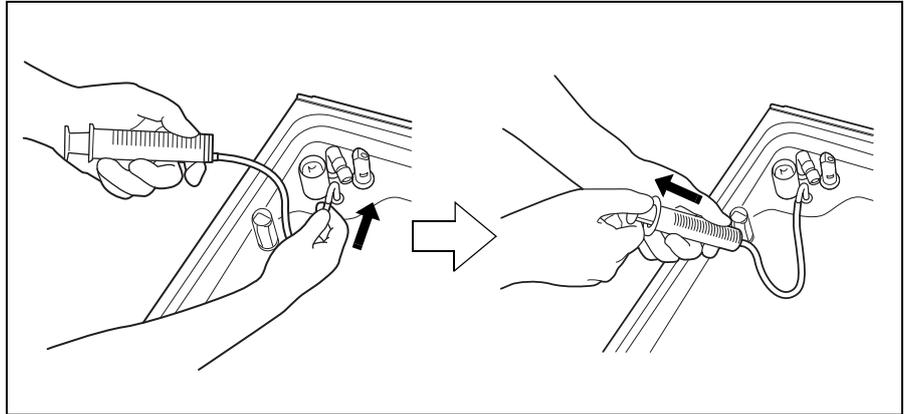

Figure 7.89
6. To remove detergent from inside the line, connect the tube attached to the syringe to the detergent nozzle inside the reprocessing basin. Suction the detergent with the syringe until no more detergent comes out of the line (see Figure 7.89).
9. To rinse the line, connect the tube attached to the syringe to the detergent nozzle and suction more than 50 ml of sterile water with the syringe (see Figure 7.89).
10. To remove rinse water from inside the line, connect the tube attached to the syringe to the detergent nozzle inside the reprocessing basin. Suction the water with the syringe until no more water comes out of the line (see Figure 7.89).
13. To fill the detergent supply pipe with the disinfectant solution, connect the tube attached to the syringe to the detergent nozzle and repeat the suction operation with the syringe until the disinfectant solution comes out of the tube. During this process, do not let the air come into the detergent supply pipe (see Figure 7.89).
16. To remove disinfectant solution from inside the line, connect the tube attached to the syringe to the detergent nozzle and suction the disinfectant solution with the syringe until no more disinfectant solution comes out of the line (see Figure 7.89).
19. To rinse the line, connect the tube attached to the syringe to the detergent nozzle and suction more than 50 ml of sterile water with the syringe (see Figure 7.89).
21. To remove rinse water from inside the line and fill it with detergent, connect the tube attached to the syringe to the detergent nozzle and suction more than 50 ml of detergent with the syringe (see Figure 7.89).